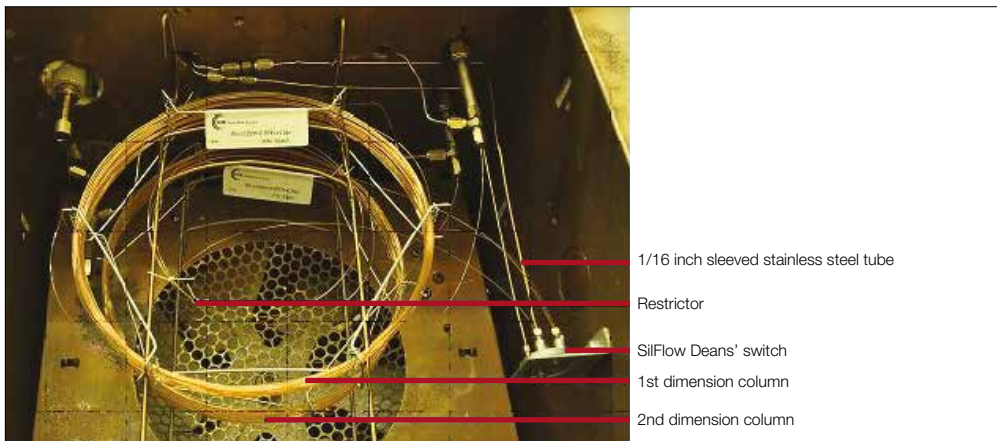

Figure 9. Hardware setup for heart cutting two dimensional gas chromatography.
- iii. Run the stainless steel tubes through the oven ceiling and exit to the location where the solenoid valve is installed. If your GC is not equipped with EPC, we recommend the Parker VSO®-EP (see www.parker.com/precisionfluidics). Bend the tubes and align in such a way that they run closely against the oven walls. This provides easy access to the oven (Figure 9).